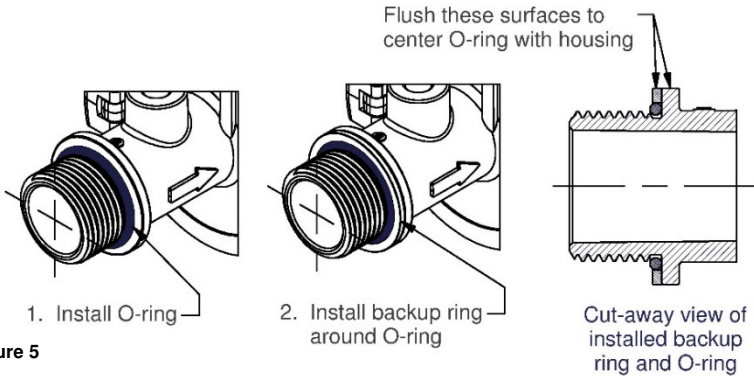

Figure 5
The BSPP meter includes a plastic bag containing (2) O-rings and (2) backup rings that must be installed onto the meter. They are used for sealing the fitting ends of the meter to process piping. Before installing the meter, install an O-ring in the O-ring gland on each housing end, then fit a backup ring over each O-ring (see Figure 5).